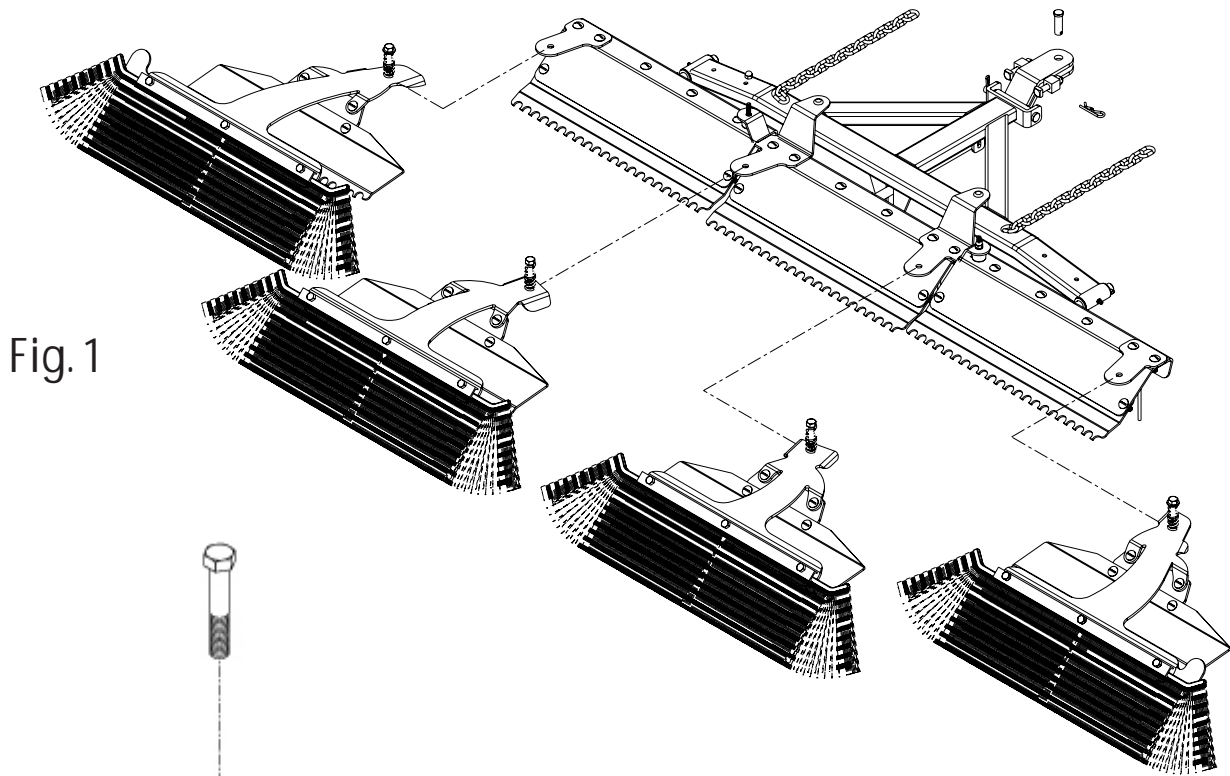

Fig. 1
1. Before assembly please note the two Brush/Finish Blade Assemblies (Refs A & C in Fig.1) that are mounted on the outside (RH & LH) have flat washers that are between the Brush Arms (Refs 2 & 21) and the Brush Arm Mount (Ref 6).
2. Also please note the placement of the Brush/Finish Blade Assemblies as illustrated in Fig 1. They must be mounted as illustrated to work as intended.
3. Begin assembling your PROBRUSH TOURNAMENT RAKE by inserting the Outside and Center Groomer Blade Assemblies (Refs A, B & C in Fig.1) in their locations as illustrated. Secure the Outside Assemblies with the  $\frac{1}{4}$ " Pin (Ref 11) and the Center Assembly with the  $\frac{1}{4}$ " x  $1\frac{3}{4}$ " Bolt and Lock Nut (Ref 33).